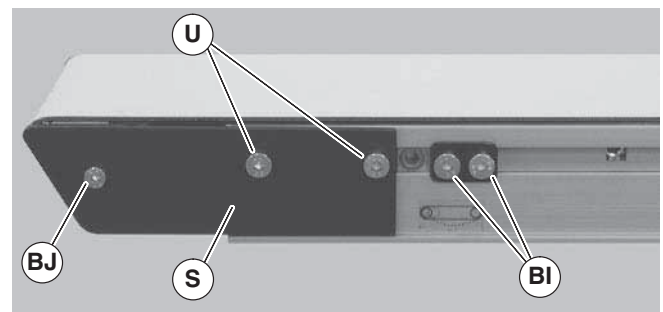

Figure 41
1. On both sides of conveyor, use a 4 mm hex-key wrench to loosen cam fastening screws (Figure 41, item BI) and slide cam assemblies toward the center of the conveyor.
5. After replacing bearings, re-install head plate (Figure 41, item S). Use a 3 mm hex-key wrench to tighten one (1) fastening screw (BL) to 30 in-lb (3.4 Nm). Leave two (2) fastening screws (U) loose for belt tensioning.